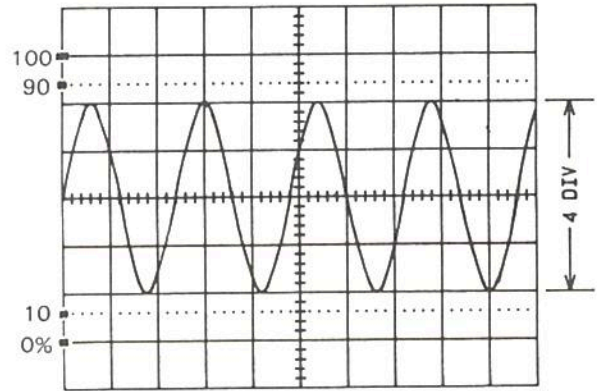

FIGURE 2-7. PEAK-TO-PEAK VOLTAGE MEASUREMENT
2. Adjust the TIME/DIV switch (22) or (23) for two or three cycles of waveform, and set the VOLTS/DIV switch for the largest-possible totally-on-screen display.
3. Use the appropriate Vertical POSITION control (17) or (18) to position the negative signal peaks on the nearest horizontal graticule line below the signal peaks, per Figure 2-7.
4. Use the Horizontal POSITION control (26) to position one of the positive peaks on the central vertical graticule line. This line has additional calibration marks equal to 0.2 major division each.
5. Count the number of division from the graticule line touching the negative signal peaks to the intersection of the positive signal peak with the central vertical graticule line. Multiply this number by the VOLTS/DIV switch setting to get the peak-to-peak voltage of the waveform. For example, if the VOLTS/DIV switch were set to 2V, the waveform shown in Figure 2-7 would be 8.0V p-p ($4.0 \text{ div} \times 2V$).